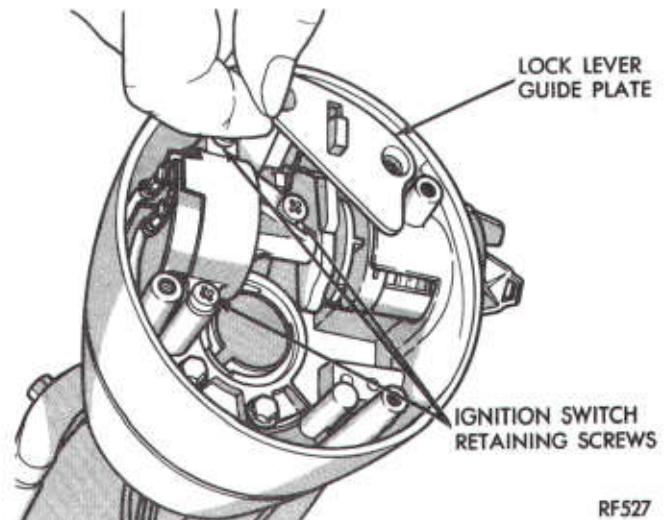
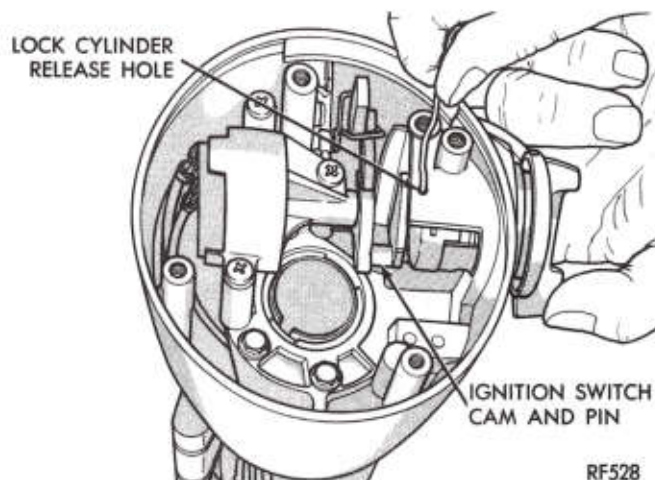

Fig. 9—Lock Lever Guide Plate
Fig. 10—Remove Lock Cylinder
(1) Remove two retaining screws and the lock lever guide plate which will expose the lock cylinder release hole (Fig. 9)
(2) Place cylinder in LOCK position and remove key.
(3) Insert a small diameter screwdriver or similar tool into lock cylinder release hole and push in to release spring loaded lock retainer. At the same time pull lock cylinder out of housing bore (Fig. 10).
(7) Install the lock lever guide plate and retaining screws (Fig. 9).